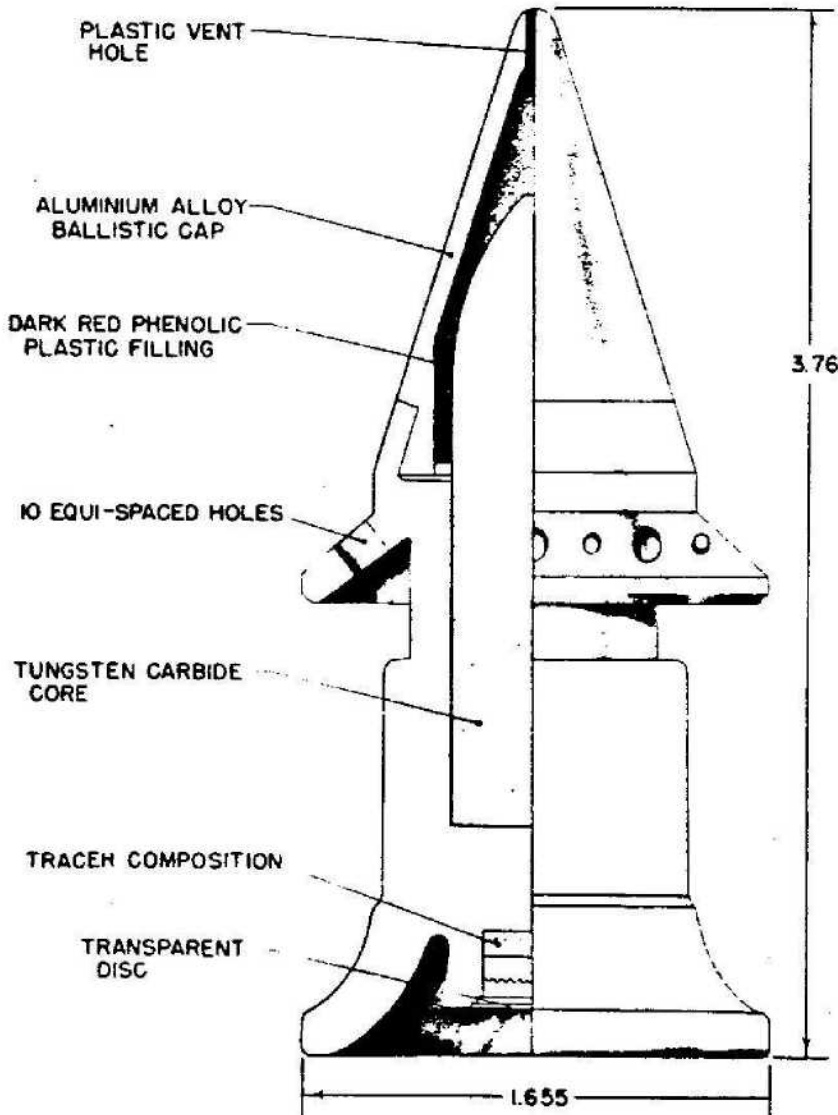

Figure 342—A. P. Projectile with Core for Tapered Bore Gun, 42-28-mm, 4.2-2.8-cm Pzgr. Patr. L. Pak. 41
**GERMAN NOMENCLATURE:** 4.2-cm-2.8-cm Pzgr. Patr. L. Pak. 41 (Panzergranate Patronen L. Panzerabwehrkanone 41). (See fig. 342.)